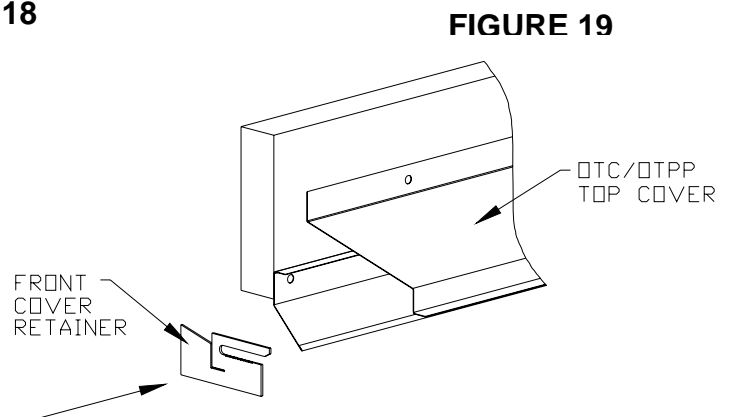

FIGURE 19
3. Locate the front cover retainers as shown in Figure 19. These retainers slide over the top cover and have to be installed from the end of the system. Install the front cover retainers as shown in Figure 19. The front covers are 5' long. Locate the front cover retainers one foot from the end of each front cover between the Kool-Cel pads as shown in Figure 20.
- F) Check the water flow from the pipe to insure that flow is on the top cover per Figure 19. If required, adjust the position of the pipe to insure water flow is going into the pad and not splashing out of the system. If the pipe is positioned properly and water is being thrown out of the system, adjust the flow valve until the water does not splash out.